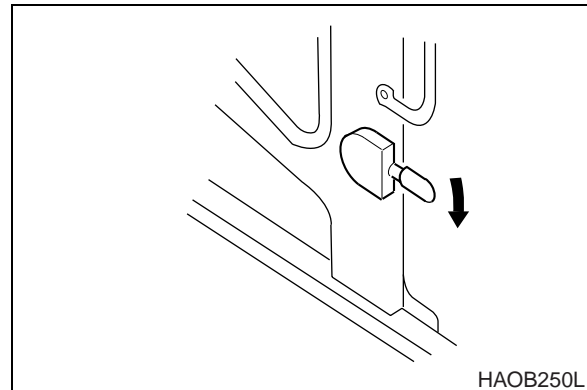

Figure 118
2. To release door from side of cab, push the latch lever (Figure 118) down. The latch lever is to the left of the operator's seat.